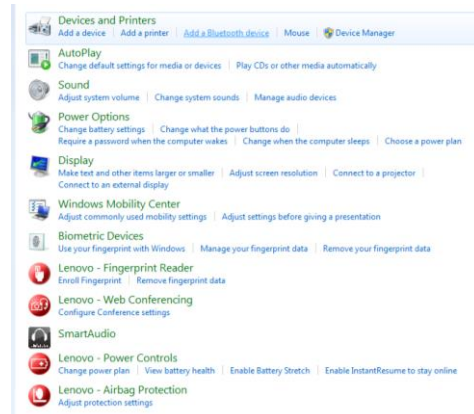

Figure 2.3.1.4
Step 3: Click on 'Add a Bluetooth device' as shown in figure 2.3.1.4. The window in figure 2.3.1.5 appears.